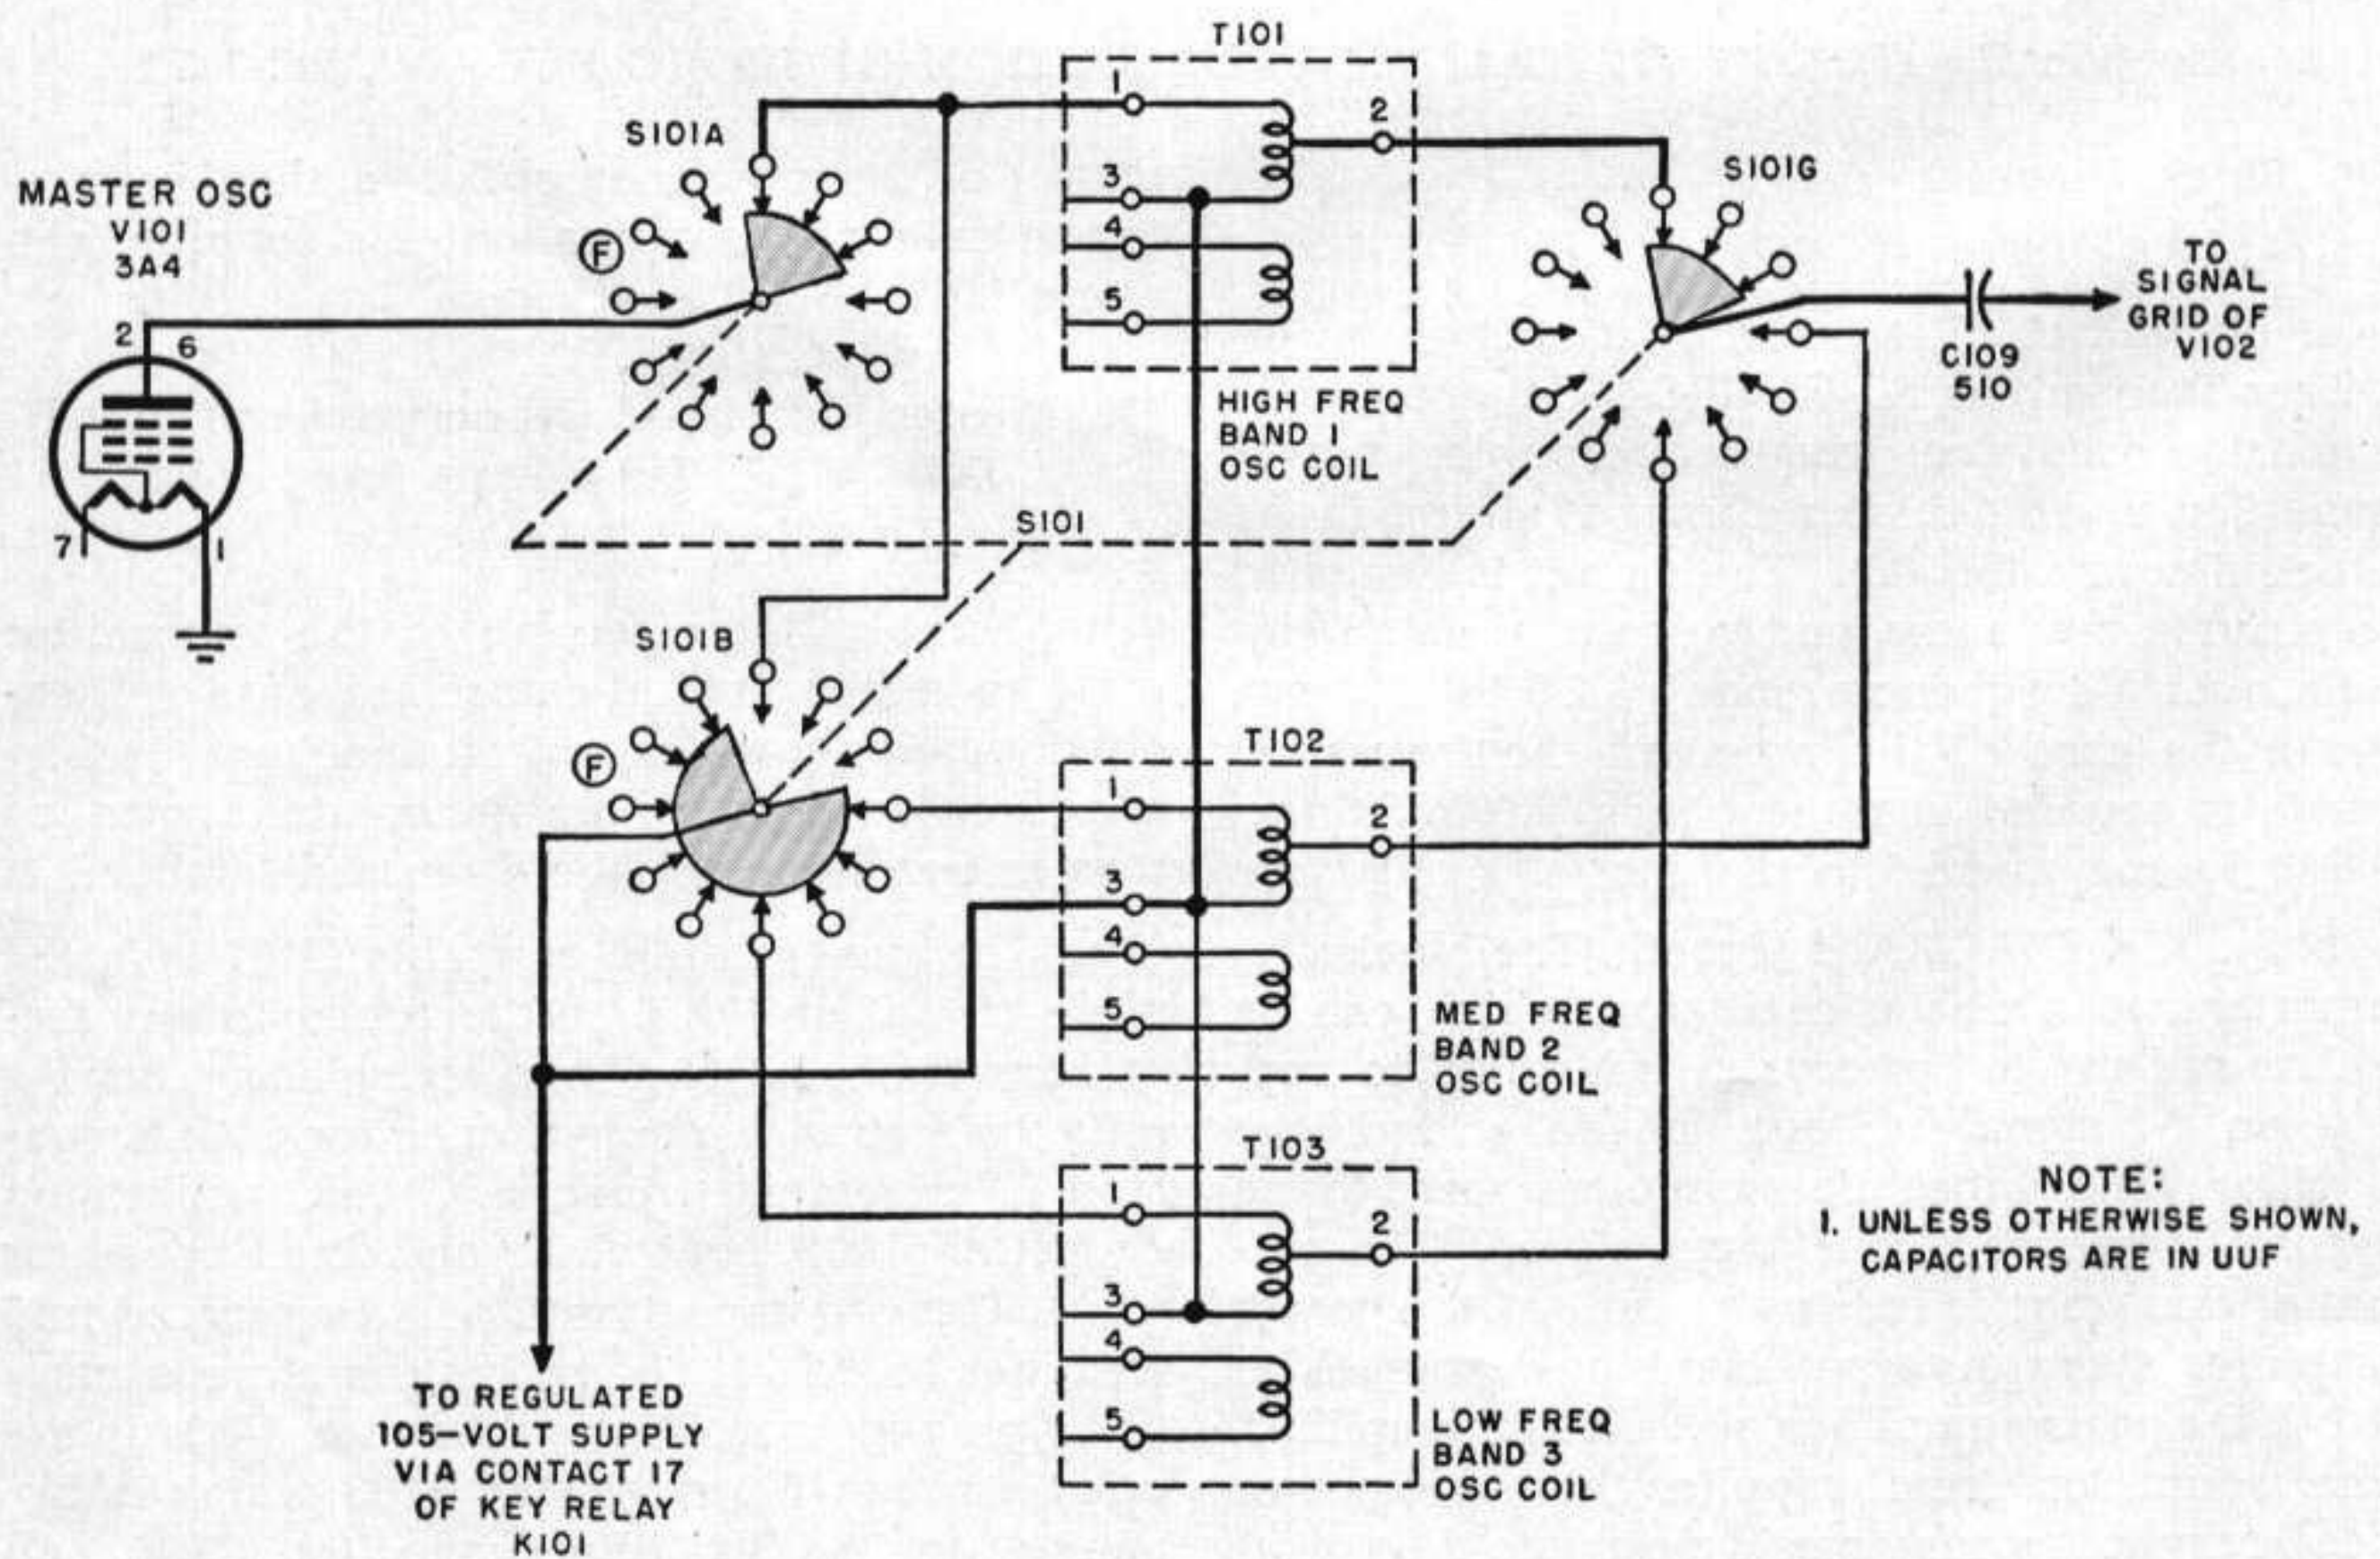
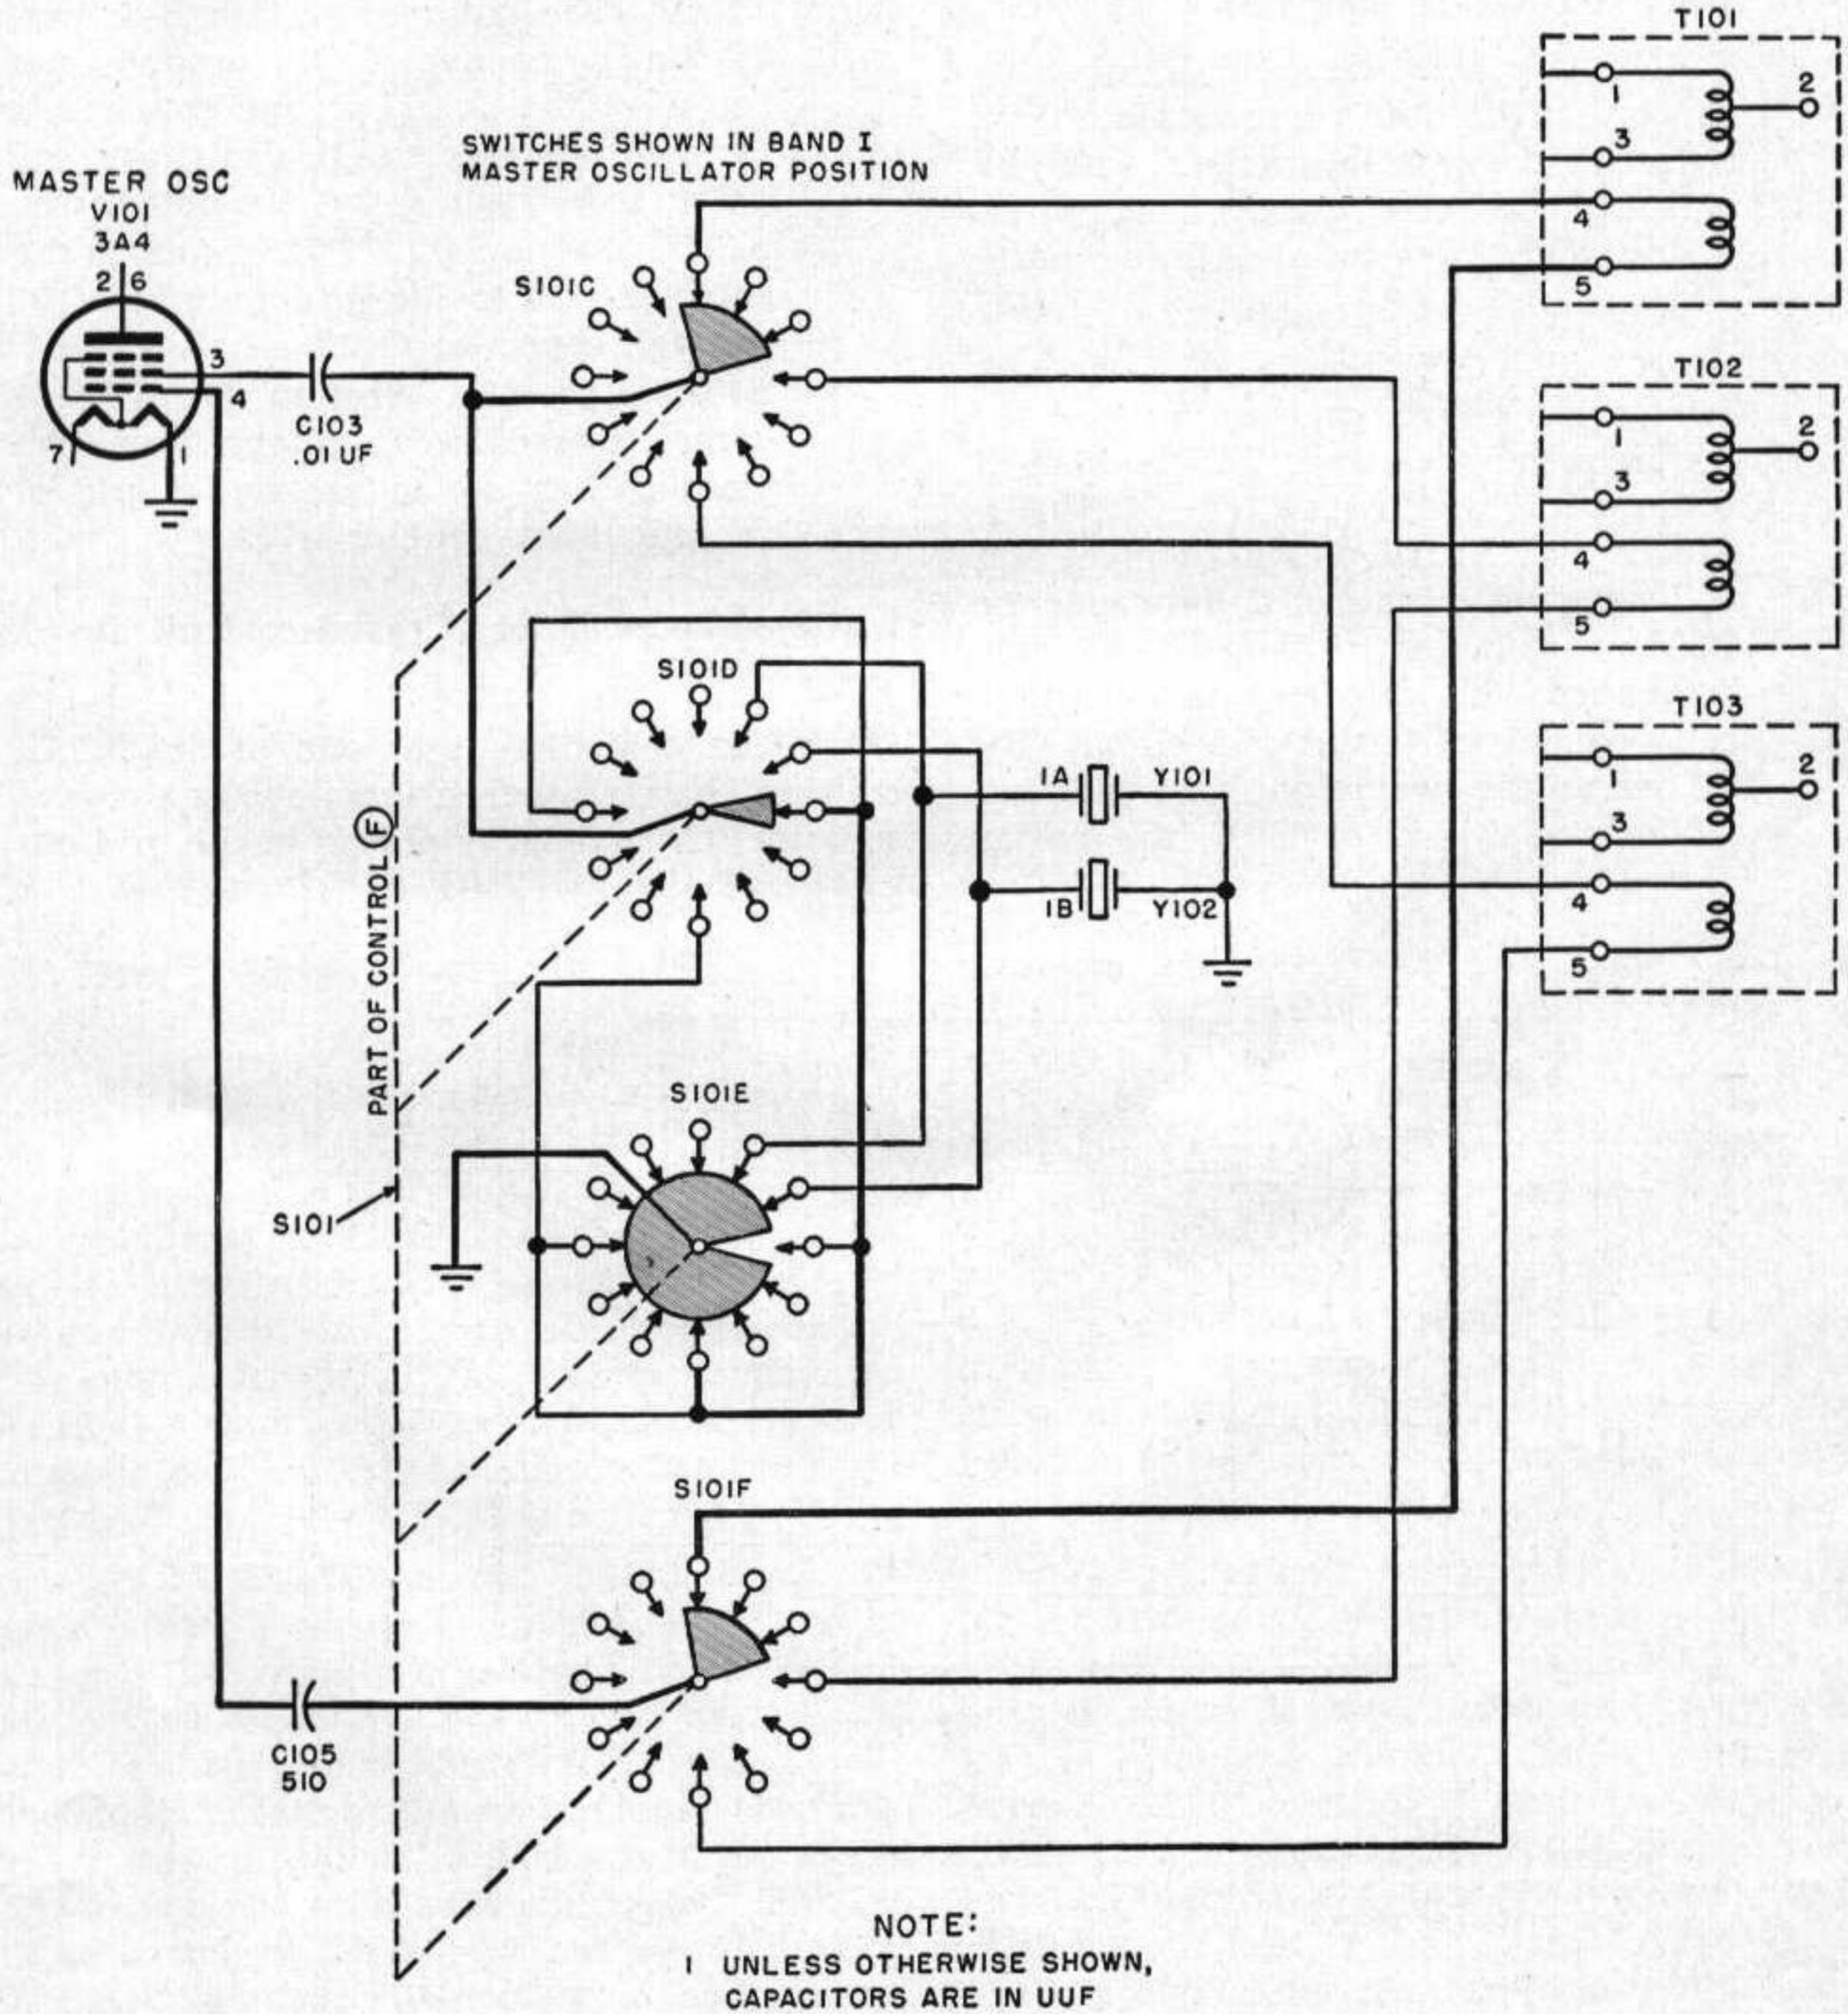

Figure 68. Master oscillator switch sections S101A and S101B.
Figure 69. Master oscillator switch sections S101C, D, E, and F.
- (1) S101A (fig. 68). Section A of S101 determines which of the three plate circuit coils is to be used. Thus, should control **F** on the transmitter panel be turned to BAND 1, switch S101A would lead the plate current of tube V101 to the larger coil in transformer T101, and no other. This is shown by the weighted line in figure 68.
- (2) S101B (fig. 68). Section B of S101 shorts out the other unused plate coils so as to prevent interaction with the coil circuit being used; such interaction tends to cause undesirable parasitic oscillations.
- (3) S101C (fig. 69). Section C of S101 selects the proper grid circuit coil for the frequency selected. This is done in conjunction with switches S101D, S101E, and S101F which connect the coil selected to the grid by capacitor C105. Since the entire bank of switches is ganged, the grid coil is automatically connected to the grid circuit. By following the weighted line, starting at the signal grid of V101, the entire
- (4) S101D. Section D of S101 selects, during crystal operation, the proper crystal to be used for the frequency desired. Section D also connects the grid coil to ground through section E, as shown in figure 69.
- (5) S101E. The rotor of section E is permanently connected to ground and serves as the actual ground connection for the coil selected. It also shorts out all or any crystals that are not in use.
- (6) S101F. Section F of S101 connects the selected coil to the grid of tube V101 through capacitor C105.
- (7) S101G (fig. 68). Section G of S101 connects oscillator voltage from the plate coil in use to the signal grid of the frequency doubler V102.